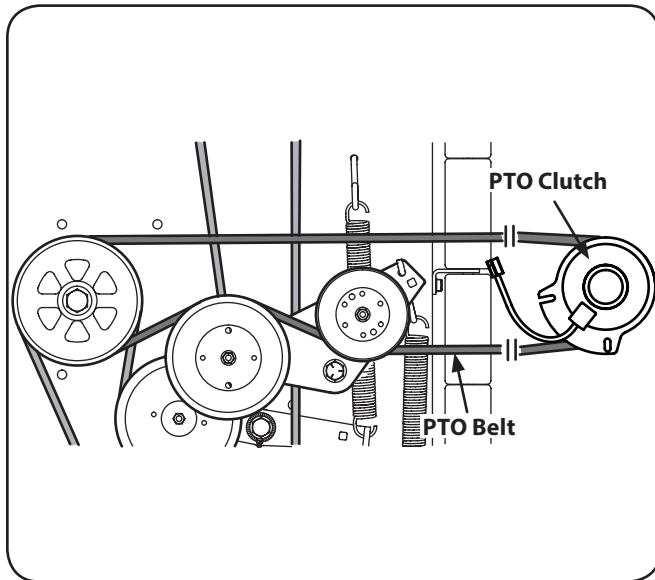

Figure 7-5
1. Remove the PTO belt from the deck as instructed in the Deck Removal section then remove it from around the PTO clutch. See Figure 7-5.
2. Route the PTO belt as shown in Figure 7-5. After routing the belt around the PTO pulley, use a ½" drive in the idler pulley bracket and turn towards the right of the tractor to finish routing the belt around the idler pulley.